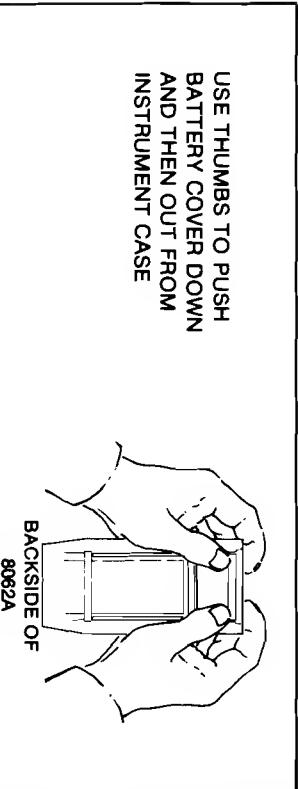

Figure 2-1. Removal of Battery Compartment Cover
- Turn the instrument over and use your thumbs to pry off the battery cover as shown in Figure 2-1 (push cover down and then out).